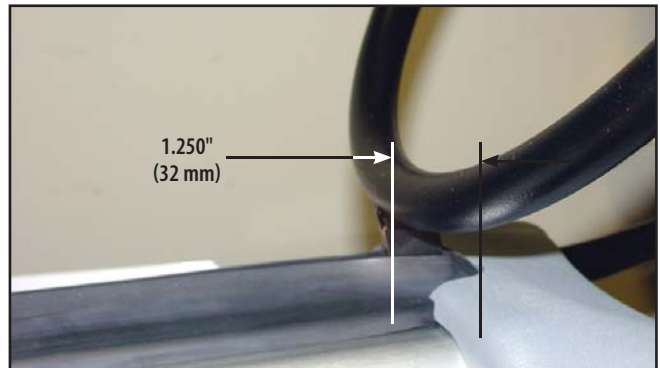

FIGURE 7.8
10. Press the Up Arrow button until the front of the Carriage Guide Bar is approximately 1.250" (32 mm) from the cut out in the Front Cover. Refer to Figure 7.8.